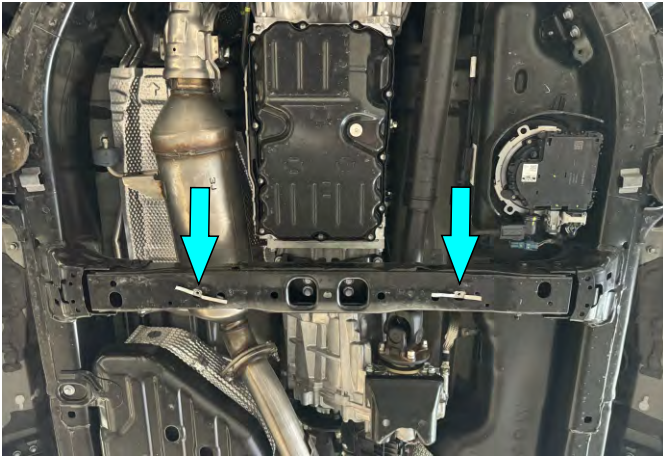

Fig. 1
1. Install insert nuts M8 (item C) as shown in fig. 1.